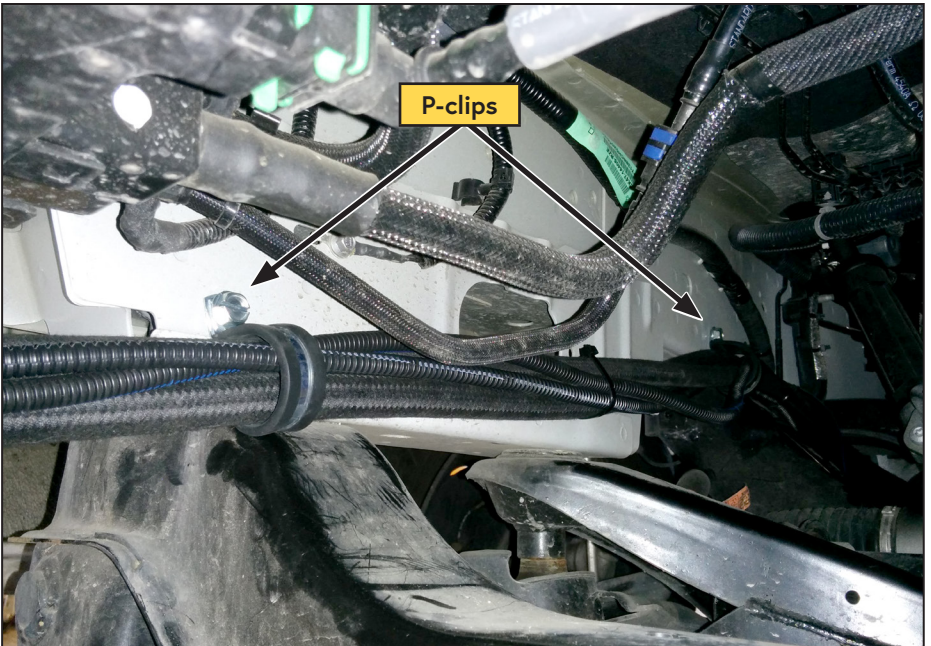

Figure 47 — Hose routing along inside of driver side frame
- Route the hoses along the inside of the driver side frame rail and secure them using the 2 supplied P-clips and 5/16 in x 3/4 in sheet metal screws in the existing holes on the frame (Figure 47).